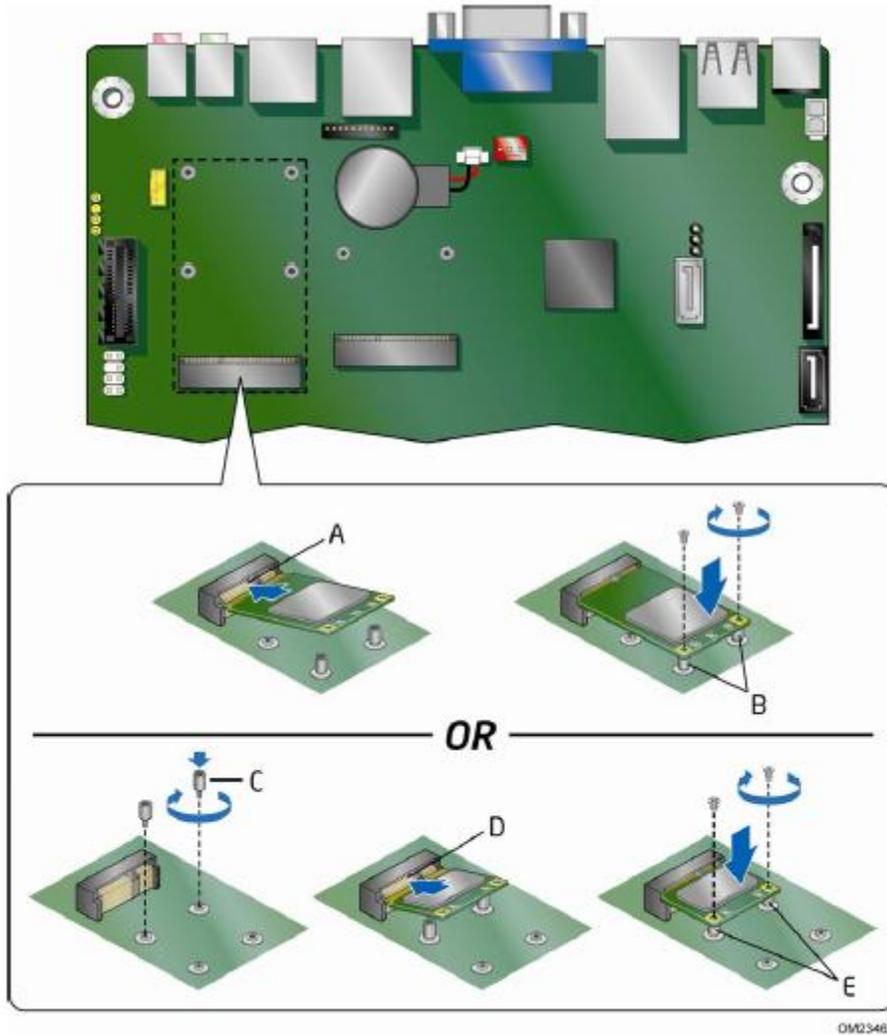

Figure 23. Installing a PCI Express Mini Card in the Full-/Half-Mini Card Slot
To install a PCI Express Full-Mini Card in this slot, see Figure 23 and follow these steps:
3. Insert the card into the PCI Express Mini Card connector (see Figure 23 → A) at a slightly upward angle.
4. Align the mounting holes and secure the card in place (see Figure 23 → B).
To install a PCI Express Half-Mini Card in this slot, see Figure 23 and follow these steps:
3. If necessary, move the mounting standoffs to the location shown in Figure 23 → C.
4. Insert the card into the PCI Express Mini Card connector (see Figure 23 → D) at a slightly upward angle.
5. Align the mounting holes and secure the card in place (see Figure 23 → E).